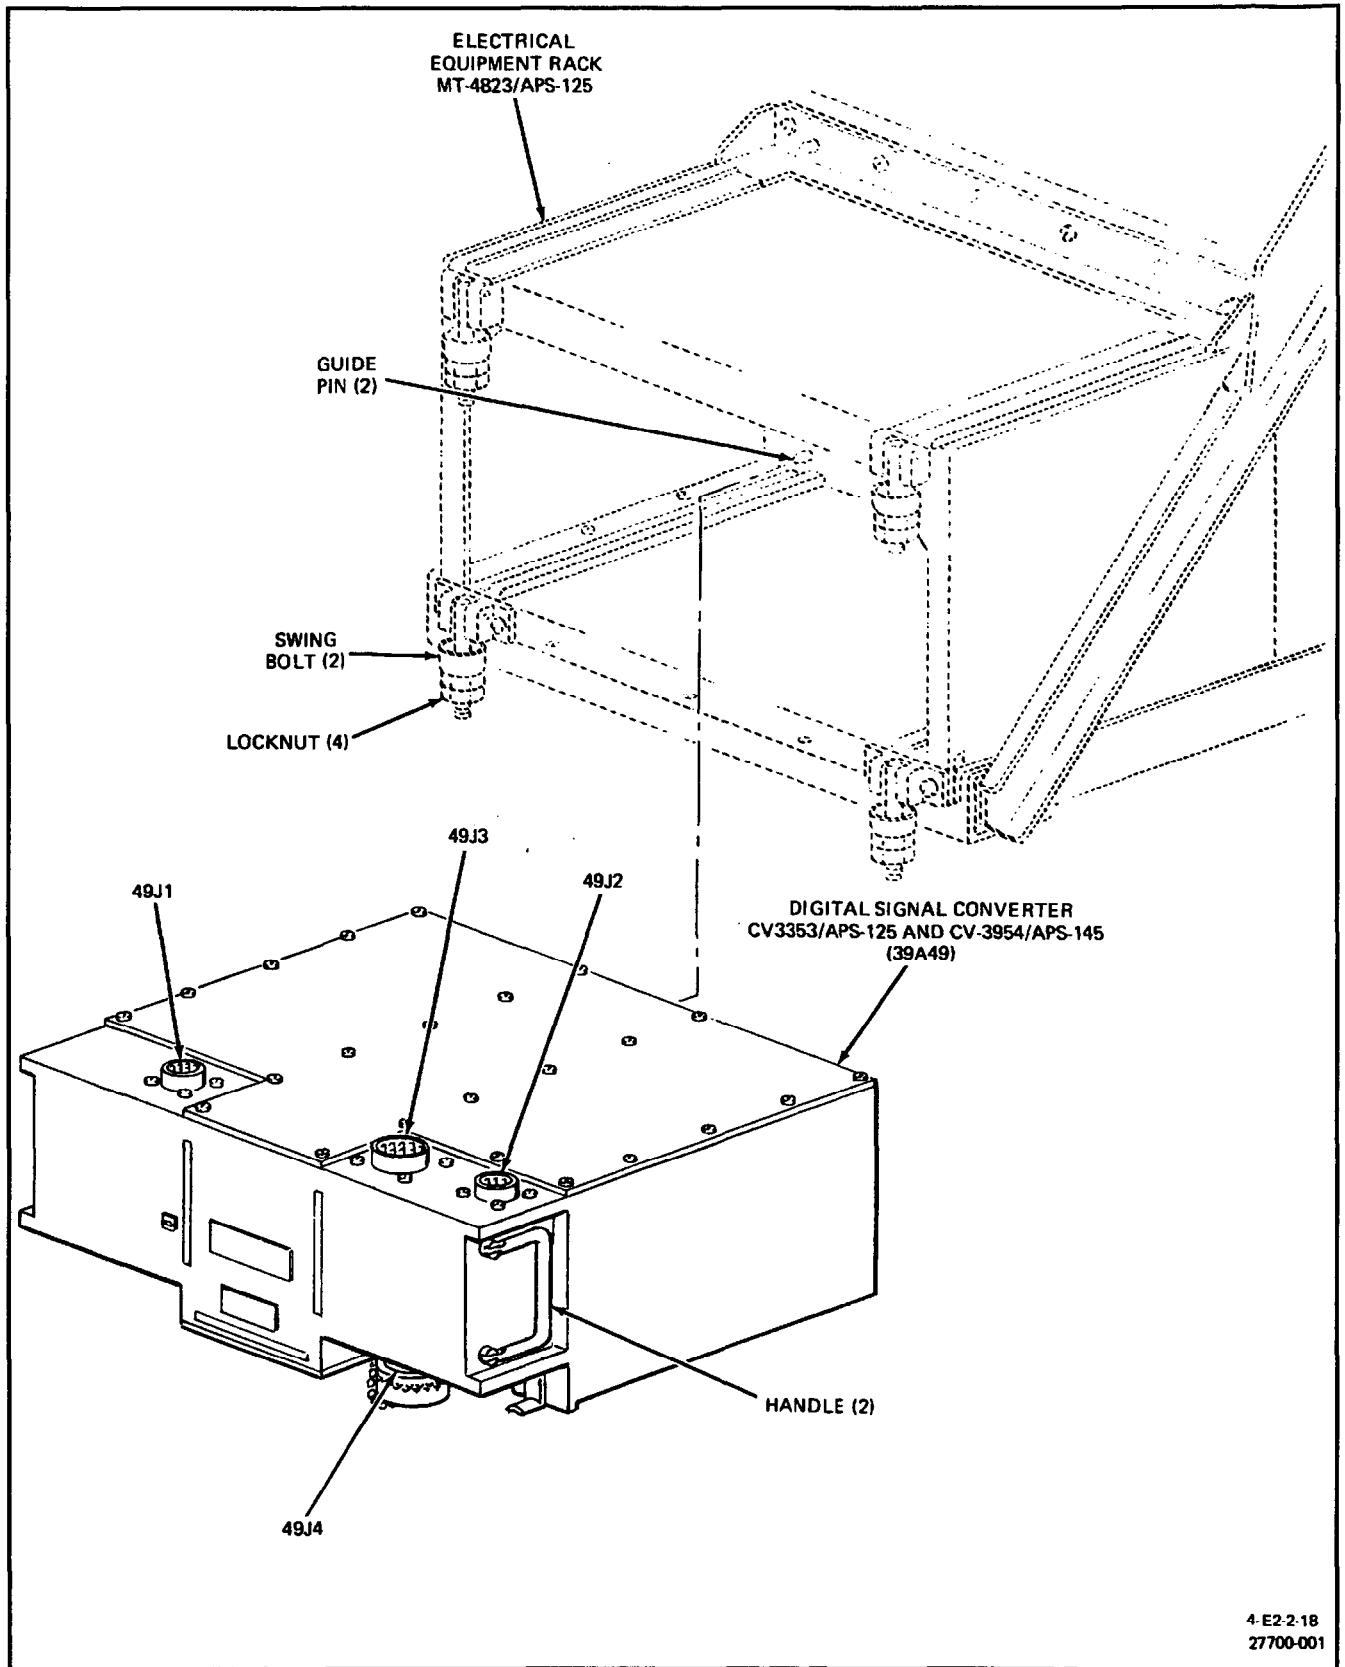

Figure 1. Removal and Installation of Digital Signal Converter CV-3353/APS-125 and CV-3954/APS-145
4. **INSTALLATION.** (Figure 1.)